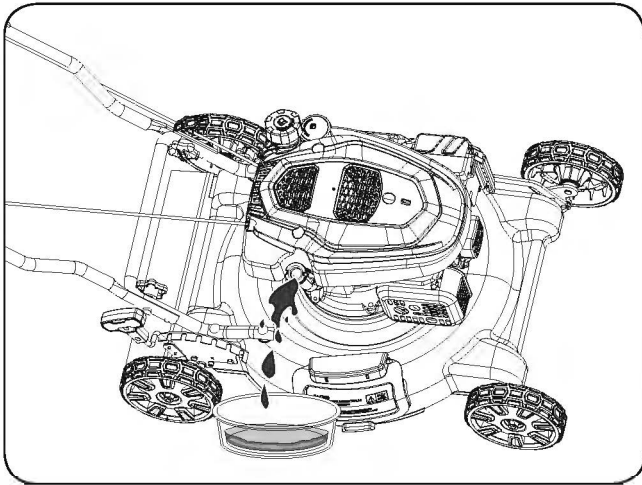

Figure 14
- Tip the machine onto its side (so that the air filter is up) to drain the used oil from the oil-fill tube. (See **Figure 14**)